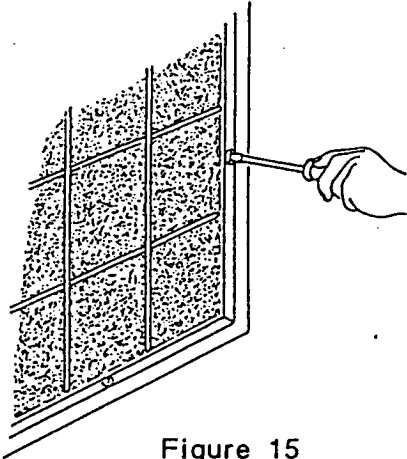

Figure 15
- Remove cover frame with a screwdriver. To mount, turn screws 90° (Figure 15).